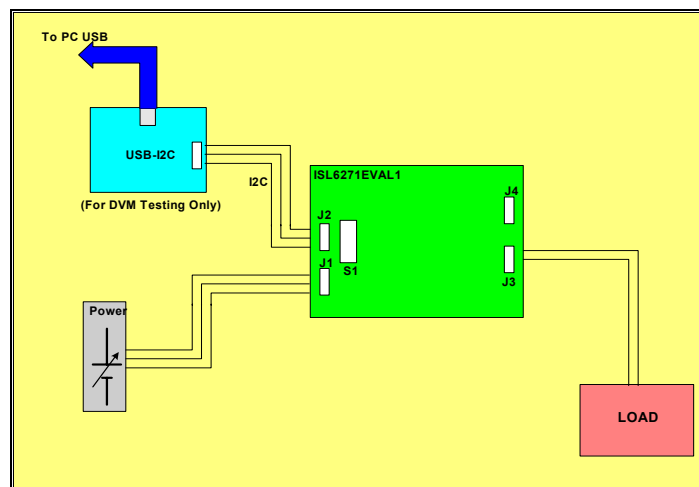
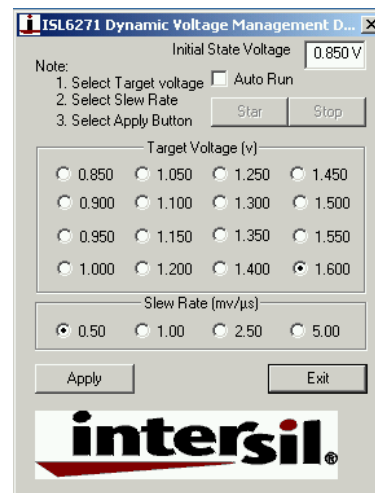
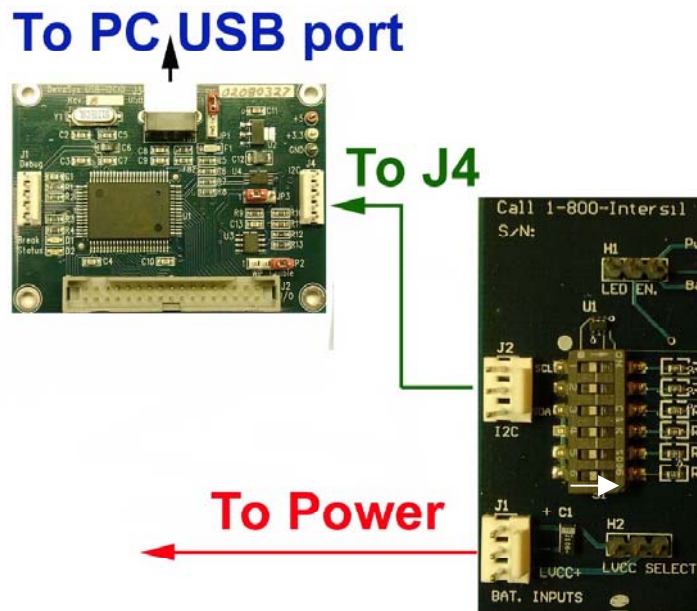

FIGURE 2. CONNECT J1 TO THE DUAL POWER SUPPLY
FIGURE 11. ISL6271A TESTING APPLICATION WINDOW
FIGURE 12. CONNECT THE INTERCONNECTING CABLE TO J2 ON THE EVALUATION BOARD
Connect J1 on the eval board to the dual power supply, with the (LVCC+) pin to 2.5V (supply to the 2 LDO's), the (+) pin to 3.7V (supply to the switching regulator), and the (-) pin to the supply common (gnd), **Figure 2**.
Once the SW is loaded and the DVM-choice screen is displayed (**Figure 11**), the two boards should be connected together (**Figure 12**). Before connecting the cable between the eval board and the USB-I²C module (**Figure 2**), apply input power (3.7V) to the eval board and then connect the interconnecting cable to J2 on the eval board. Switch S1 position 6 should be switched to the 'right' for I²C testing.
6. Click the "ISL6271A Demo" icon on your desk top to run the software. If you receive "Error in setting the initial stage" message, check your cable connections. Figure 11 window will pop up on your desktop. You will be able to adjust the ISL6271A output voltage and slew rate through the software.